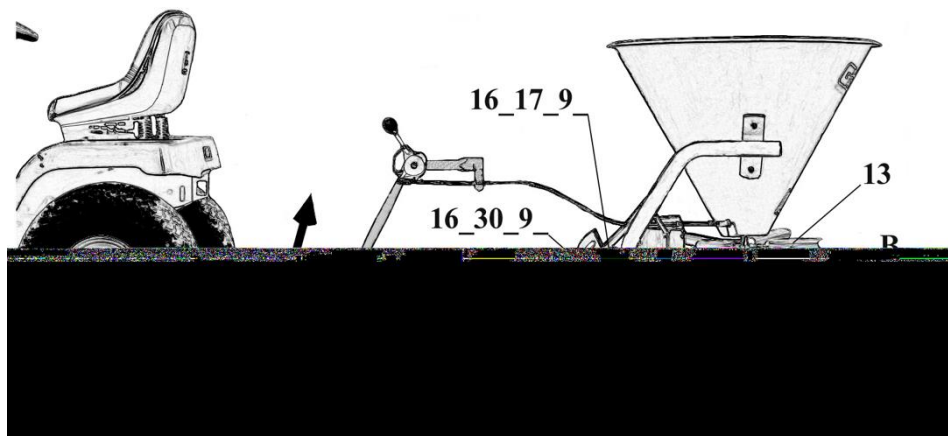

Fig. 1
The operator must manoeuvre the trailer vehicle close to the drawbar hitch point (**28**) so as to have a position of reference and to know how much to angle it, so that the spreading disc can work in a horizontal position (**13**). See Fig. 1.
- place 2 pieces of wood identified as A and B of 20cm and 15cm respectively in height, as shown in Fig. 1, with a large resting base to keep the spreading disc in a horizontal position and to prevent the hopper from overturning.
- bring the drawbar hitch attachment (**28**) up to the same height as the tow hook. See Fig. 1.
- remove the 2 pieces of wood labelled A and B. See Fig. 1.